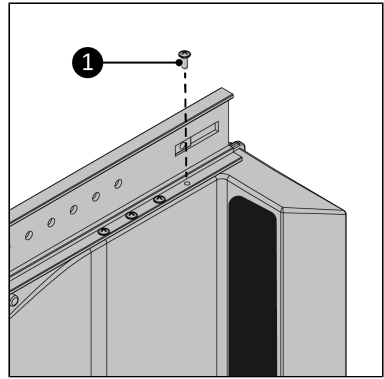

Figure 96.
- Screw the main rail to the Way-out using the eight 3,5 x 12 mm screws (Figure 96, pos. 1). Make sure all screw holes match up.